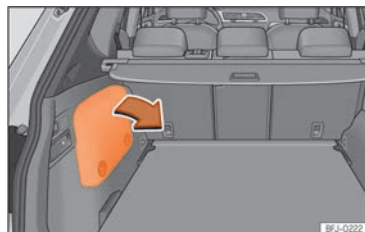

Fig. 251 Location of the battery in the luggage compartment
- Remove the side trim cover to gain access to the 12V battery »» Fig. 251.